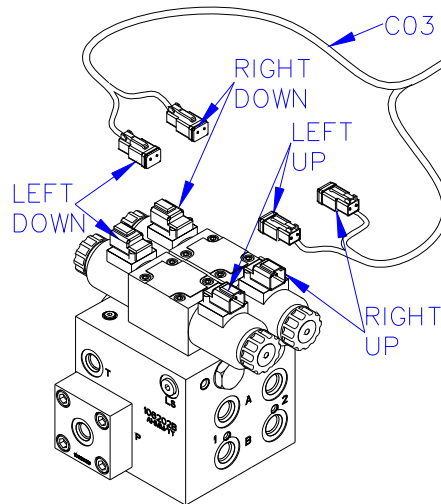

Figure 22: Valve Cable Connections
13. Connect the 2-pin connectors on C03 to the NORAC valve block, as shown in **Figure 22**.